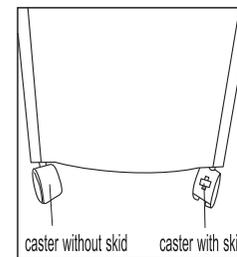

fig. 1
**Note: Casters with skid are for the two front holes and casters without skid are for the two back holes at the bottom of the unit. (as shown in fig.1)**